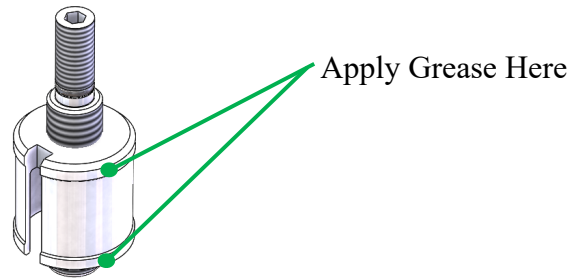

Figure 53: Adjustment Bushing
26. Thread the adjustment bushing onto the adjustment screw until approximately 2 threads of the adjustment screw are visible from the top. See Figure 53.
27. Lightly coat the outer surface of the adjustment bushing with a water-resistant grease similar to Aqualube. See Figure 53.